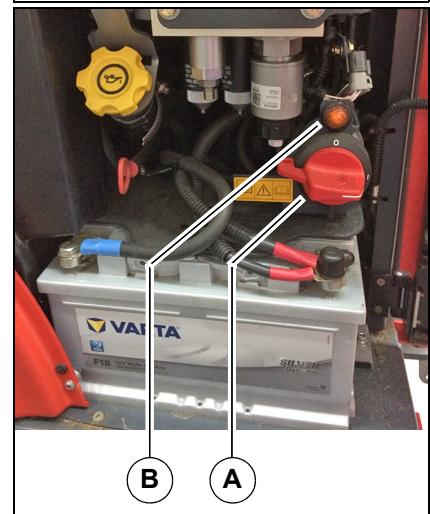

Fig. 116:
The battery isolation switch **Fig. 116-A** is behind the left side door. If the vehicle is parked for a longer period of time, the battery may self-discharge. For this case:
1. Switch off the vehicle with the ignition switch. The indicator light **Fig. 116-B** goes off after about 30 seconds.
Attention The battery isolation switch may not be switched off if the indicator light Fig. 116-B is on!